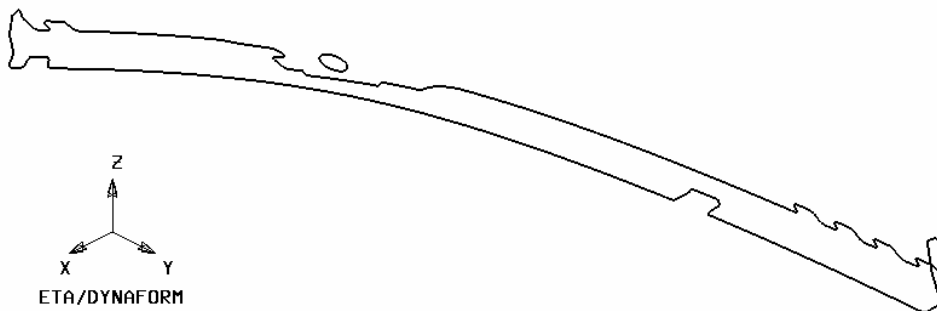

Figure 2.17: Dynaform question dialog box
- Now, click on the  icon to rotate the boundary line illustrated in Figure 2.17. Examine boundary line for tiny and/large white dots. If non are found, the part mesh is free of disqualified elements. You may skip the mesh repair operation.